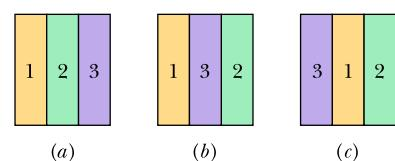

Figure 18.3 Question 6.
- 6** Figure 18.3 shows three different arrangements of materials 1, 2, and 3 to form a wall. The thermal conductivities are  $k_1 > k_2 > k_3$ .